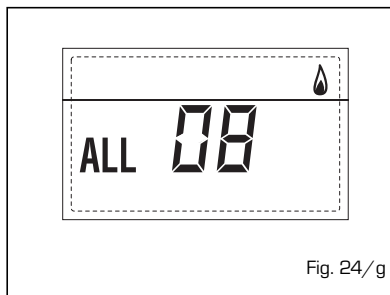

Fig. 24/g
**- WATER CIRCULATION ANOMALY ALARM 09 (fig. 24/h)**